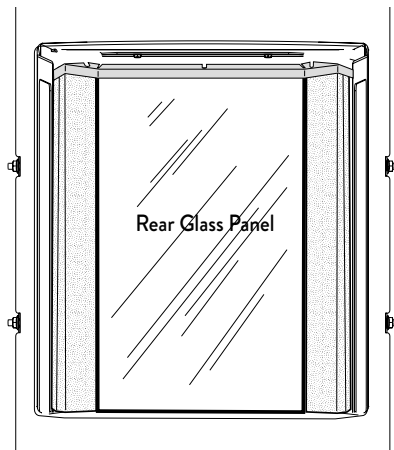

Figure 7.10. Install Rear Glass Panel.
3. **Orient the rear panel, smooth side out, textured side in.** Rest the bottom of the panel on the burner skirt, centered against the back wall. See fig. 7.10.